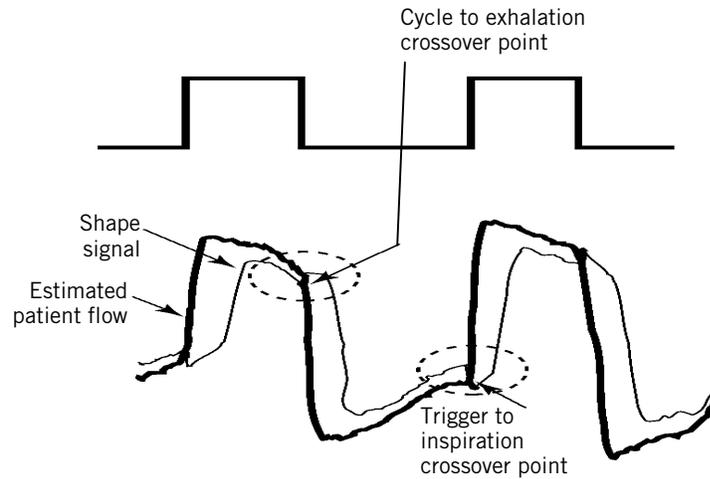

Figure 4-2: Shape signal
**Shape signal method of cycling and triggering.** The shape signal or “shadow trigger” method uses a mathematical model derived from the flow signal. A new flow signal (shape signal) is generated by offsetting the signal from the actual flow and delaying it (Figure 4-2). This intentional delay causes the flow shape signal to be slightly behind the patient’s flow signal. If there is a sudden change in patient flow, the patient’s flow signal crosses the shape signal; this results in a trigger or a cycle. As a result, a sudden decrease in expiratory flow from an inspiratory effort will cross the shape signal and create a signal for ventilator triggering.